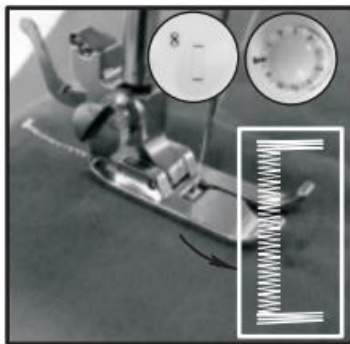

Fig.19
4. Choose the stitch pattern #8, then turn on switch and sew 5-6 stitches in low speed, then turn off switch (Fig.19).